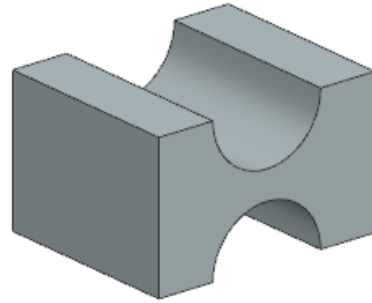

Figure 2-81 Extruded model for Tutorial 3
7. Press the Ctrl+B keys; the **Class Selection** dialog box is displayed. Select the sketch of the extruded feature to hide it. Next, choose the **OK** button from the dialog box. Figure 2-81 shows the extruded feature after hiding its sketch.